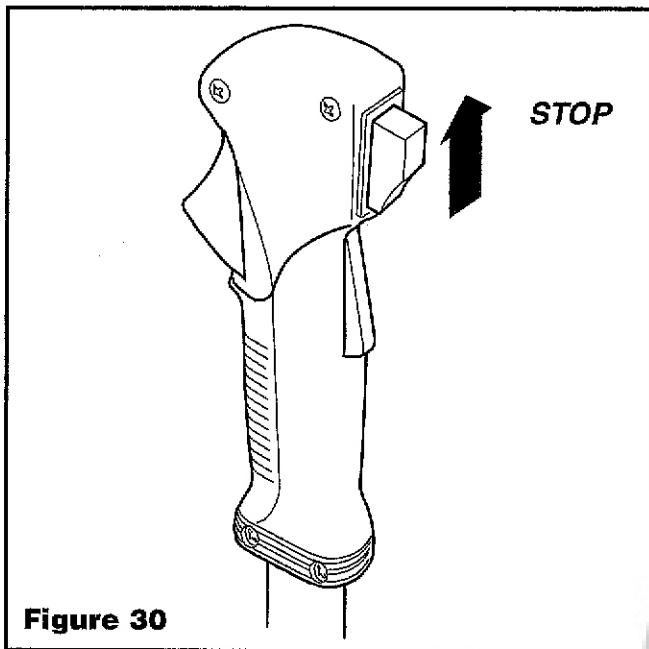

Figure 30
2. Slide the ignition switch button to the STOP position. See Figure 30.